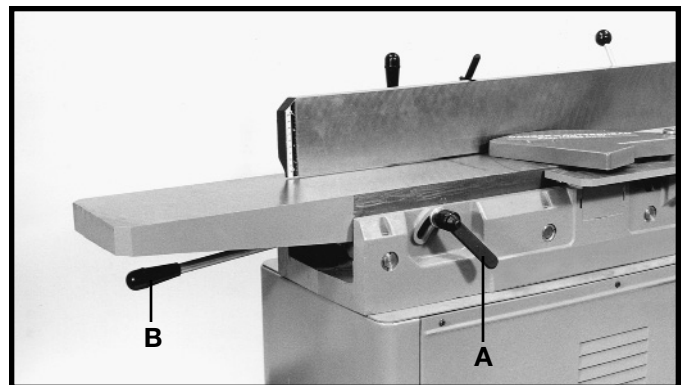
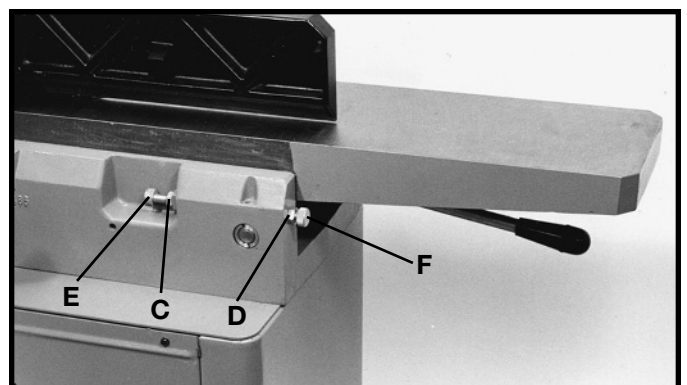

Fig. 21
Fig. 22
The outfeed table must be exactly level with the knives when the knives are at their highest point of revolution. To move the outfeed table, loosen table lock handle (A) Fig. 21, and move the table raising and lowering hand lever (B) up or down until the table is level with the knives. It may be necessary to loosen the two locknuts (C) and (D) Fig. 22, and the two adjusting screws (E) and (F) when moving the table up or down. When the outfeed table is exactly level with the knives at their highest point of revolution, tighten table lock handle (A) Fig. 21, and turn adjusting screw (E) Fig. 22, until it bottoms. Then tighten lock nut (C). Screw (F) is also a positive stop for the lower limit of the outfeed table. We suggest that this stop also be tightened with locknut (D), when the outfeed table is set level with the knives. This will prevent the outfeed table from accidentally being lowered.